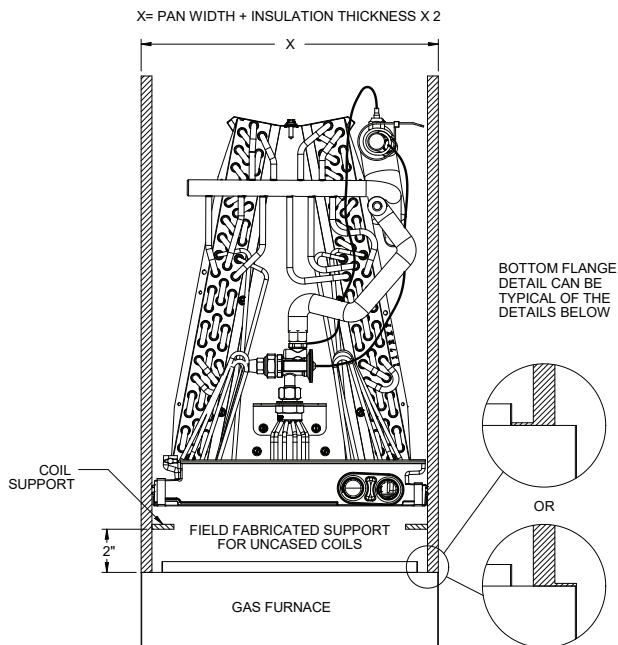

Figure 1
**NOTE:** Water coming from the secondary line means the coil primary drain is plugged and needs immediate attention. Install a trap in the drain line below the bottom of the drain pan (Figure 1). If using a copper drain line, solder a short piece of pipe, minimum 6" length, to the connector before installing a drain fitting.